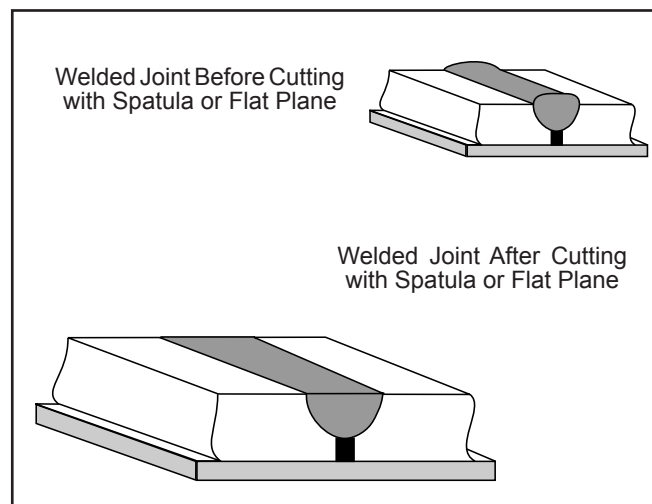

Figure 17 - Welded Joint Before and After Cutting
- 2.60. Smooth the joint and remove the excess with the spatula provided for this use (see Figure 17). Proceed to step 2.71.